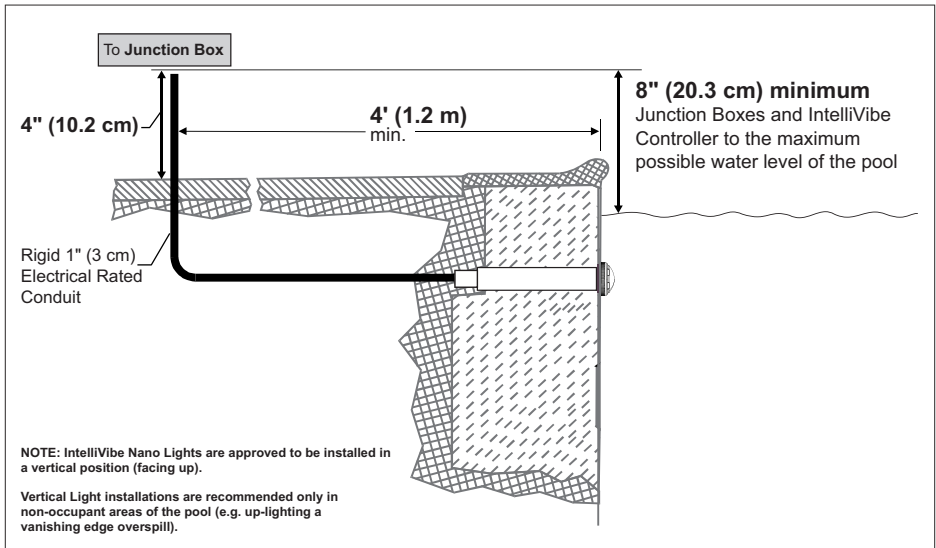

Figure 1
**BEFORE STARTING:** The following information describes the tasks that must be completed by the electrician *before* the light wall fitting is installed. See Figure 1.
- The Junction Box, PS300, and the IntelliVibe controller are located at least 4 inches (10.2 cm) above ground level or 8 inches (20.3 cm) above maximum water level, whichever is higher. The Junction Box, PS300, and the IntelliVibe controller must be at least 4 feet (1.2 m) from the edge of the pool. See Figure 1.
*See Figure 1 on page 2 for junction box installation in the USA.*